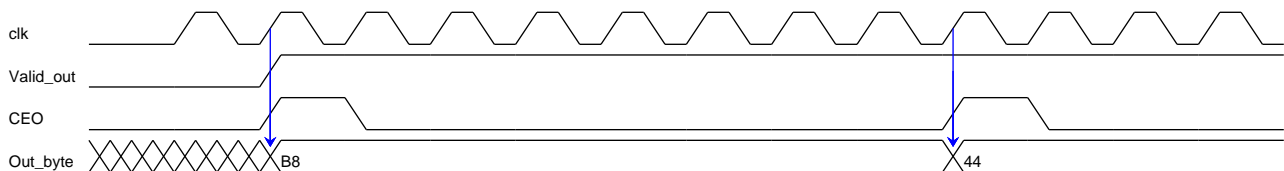

Figure 4: Output Timing Pattern
- Figure 4 is illustrating the output bytes timing, one output byte every 8 clocks.